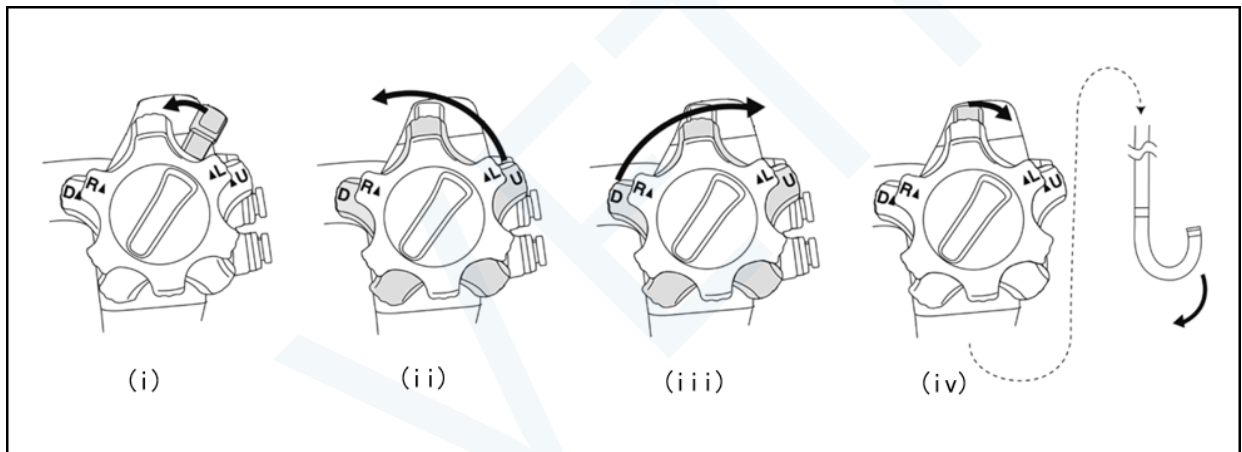

Figure 3.5
1. Rotate the U/D angulation lock in the opposite direction of the mark “F▶”. Rotate the U/D angulation control knob to the end in the direction of “▲U” or “D▲”, as shown in Figure 3.5 (i), (ii) and (iii).
3. When the angulation control knob is released and the U/D angulation lock is rotated in the direction of “F▶”, confirm that the bending section is in a straight state, as shown in Figure 3.5 (iv).